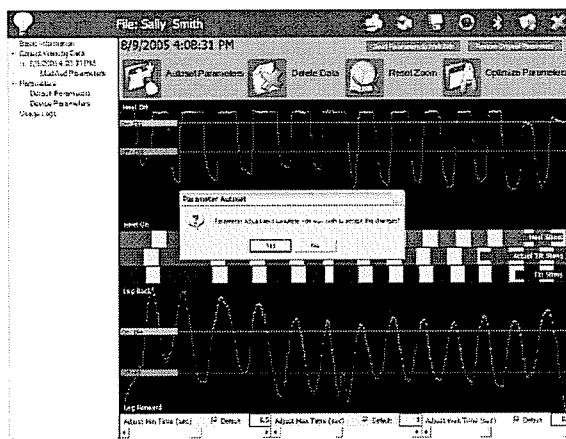

Figure 22 - Autoset Parameters.
1. Click the 'Autoset Parameters' button to automatically modify the parameter settings based on statistically calculated values from the recorded heel (if used) and tilt data (Figure 22). Click 'OK' to accept the statistical calculations and standard deviations when the parameter adjustments have been completed.